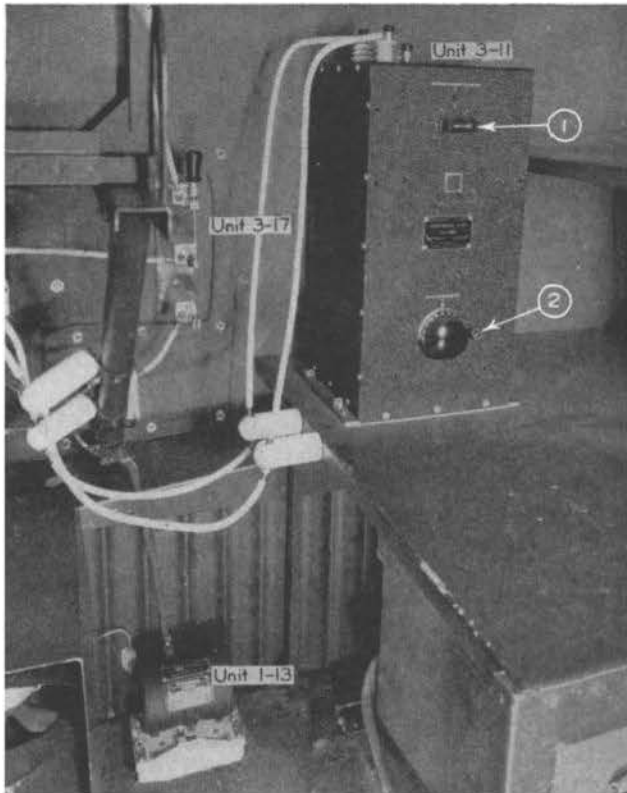

Figure 55. Right Aft Corner of Flight Deck
In order to tune the antenna for transmission on the lower frequencies (below 800 KC) a BC-306-A antenna tuning unit, Figure 55, has been provided and installed at the rear of the flight deck right side, with its connections close to those of the liaison transmitter.
For operation in the frequency range of 150 to 800 kilocycles, the externally connected Antenna Tuning Unit BC-306-A, (Figure 55) is used. This unit contains the necessary inductive reactance to resonate specified antennae at frequencies well below their fundamental. The variation in inductive reactance is provided by the ANTENNA VARIOMETER SWITCH, control E (1) and the ANTENNA VARIOMETER control F (2).
In general, it will be necessary to use Antenna Tuning Unit BC-306-A with Transmitter Tuning Unit TU-22-B or TU-26-Item 3-3, i.e. 350 kc. to 650 kc. The antenna loading equipment contained in the radio transmitter will resonate a 400 micromicrofarad antenna to approximately 650 kilocycles. Therefore, when the minimum inductance is reached on the BC-306-A (E — 2, F — 0), place control E in position 1 which disconnects this unit. Proceed to resonate the antenna circuit with control N, (10 Figure 50) on position 4. Control M, (9 Figure 50) is the continuously variable inductance between inductance steps on control F, (2 Figure 55).